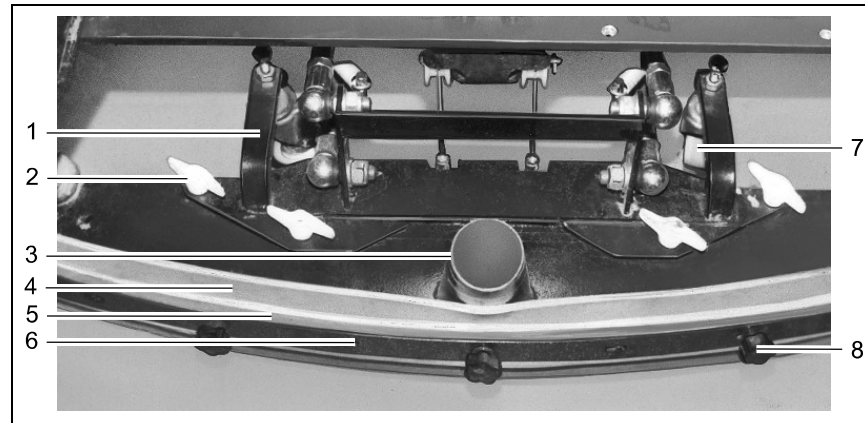

Fig. 34
5. Pull the suction hose from the connection nozzle (Fig. 34/3) of the squeegee.
6. Loosen the wing nuts (Fig. 34/2) on the holding attachment.
The sealing strips (Fig. 34/4) can be changed without the need for any tools:
2. Unscrew the knurled nuts (Fig. 34/8).
3. Remove the sealing strip, support strip and clamping rail (Fig. 34/4-6).
5. Tighten the knurled nuts (Fig. 34/8) evenly, starting from the center and working on alternate sides.
The squeegee stands with the sealing strips (Fig. 34/4) and support rollers (Fig. 34/7) on the ground. To increase the squeegee contact surface of the sealing strips (Fig. 34/4) on the floor, e.g. following wear of the sealing strips (Fig. 34/4), the support rollers (Fig. 34/7) must be set higher:
3. Adjust the support rollers (Fig. 34/7) on the right and left evenly:
5. Tighten the counternuts on each support roller (Fig. 34/7).